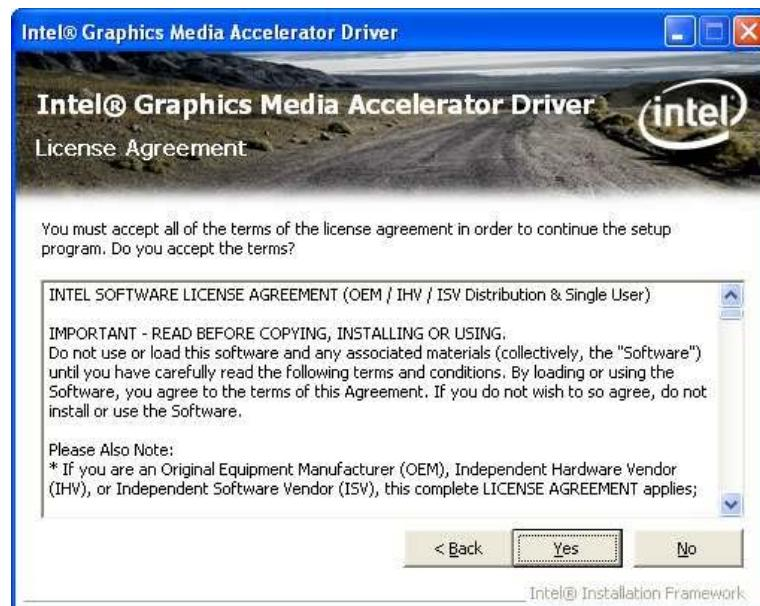

Figure 7-11: Intel® Graphics Media Accelerator Driver License Agreement
Step 7: Click **Next** and a license agreement appears (Figure 7-11).